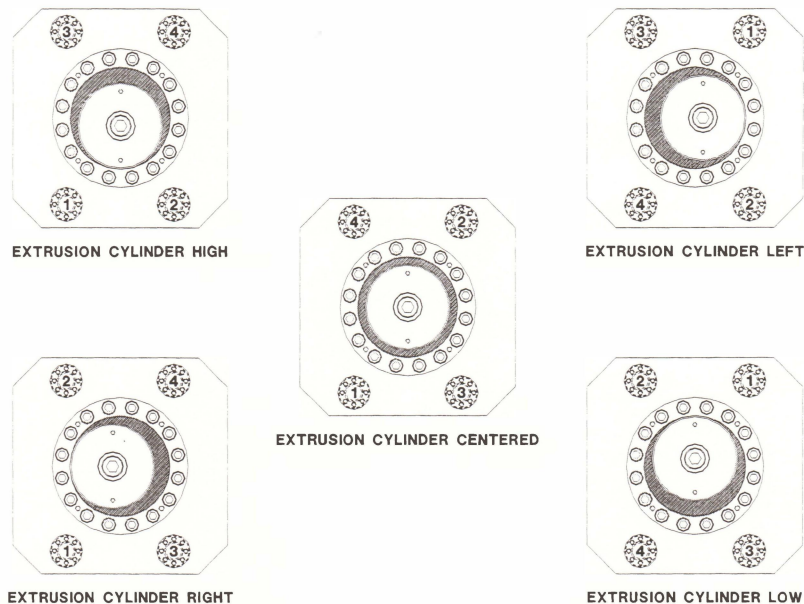

Figure 7-5 Extrusion Cylinder Allignment
7.2.21 Refer to Figure 7-5 for the jack screw tightening sequences and patterns.
- (1) Following the tie rod tensioning procedure above
- (2) Moving the piston (extending the piston) to about the half-way point of its stroke in the extrusion cylinder, and
- (3) Checking the clearance between the piston and extrusion cylinder with a feeler gauge to determine if the extrusion cylinder is aligned too far up, down, right, or left (see Figure 7-5 below). When you have determined the alignment condition of the extrusion cylinder, back off the torque from all of the tie rod tensioners, per instructions in Section 7.24 Now, re-tighten and re-torque the tie rod tensioners in the sequence (1,2,3,4) shown in Figure 7-5 below for the condition of misalignment which you have determined. This is a time consuming procedure, but you must do this to avoid costly damage to your pelletizer.